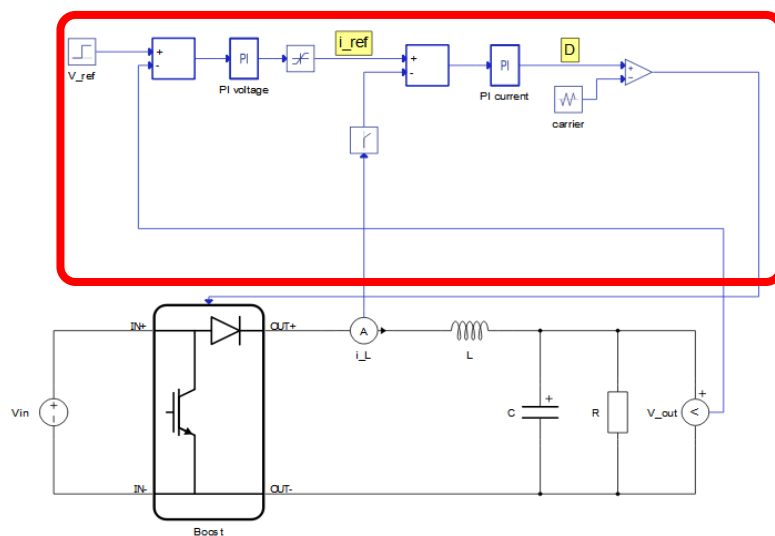

Figure 1 Signal processing control of boost converter
*Signal processing* is the part of the model built using components from Signal processing components library. It is designed to enable the user to design control algorithm in a graphical manner. Additionally, it enables the user to perform analysis of electrical measurements, model the mechanical and thermal elements of the system, etc. Figure 1 shows the example on how signal processing can be used to control output voltage of a boost converter. Control uses two analog measurements as inputs (voltage and current) and provides gating signals as inputs of the converter. Graphical representation of the control algorithm enables the designer to rapidly makes any modifications of control algorithm and test the control performance in a simulation. This concept of testing is known as Model in the Loop (MIL).